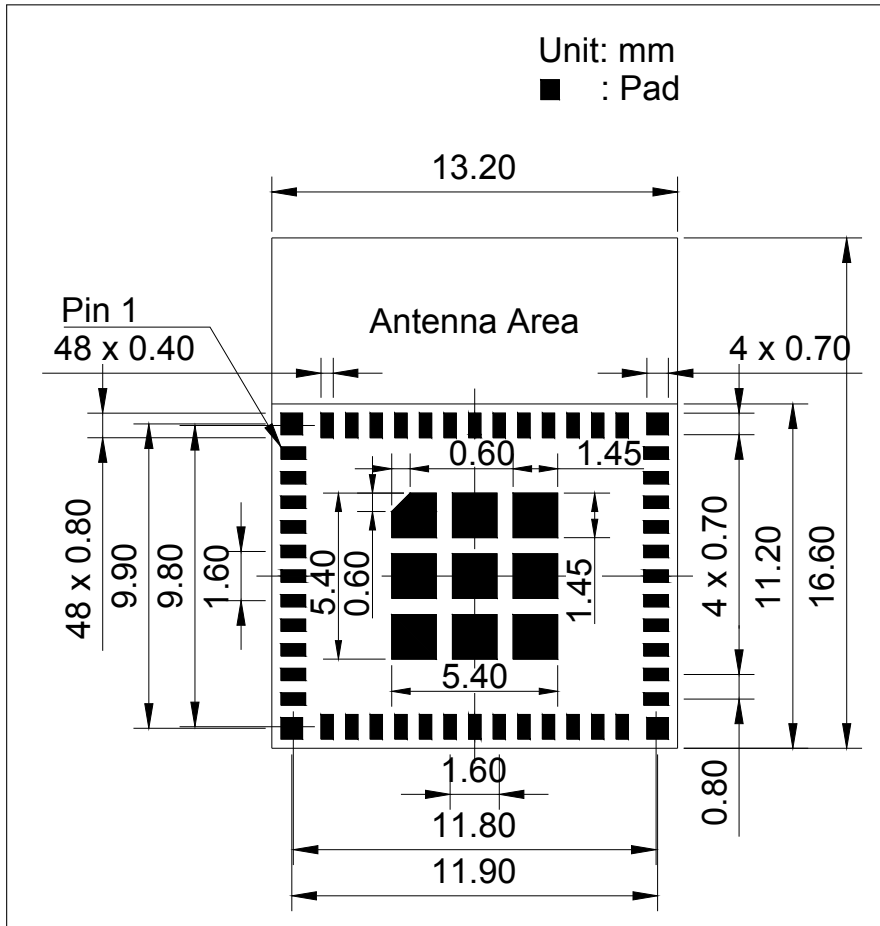
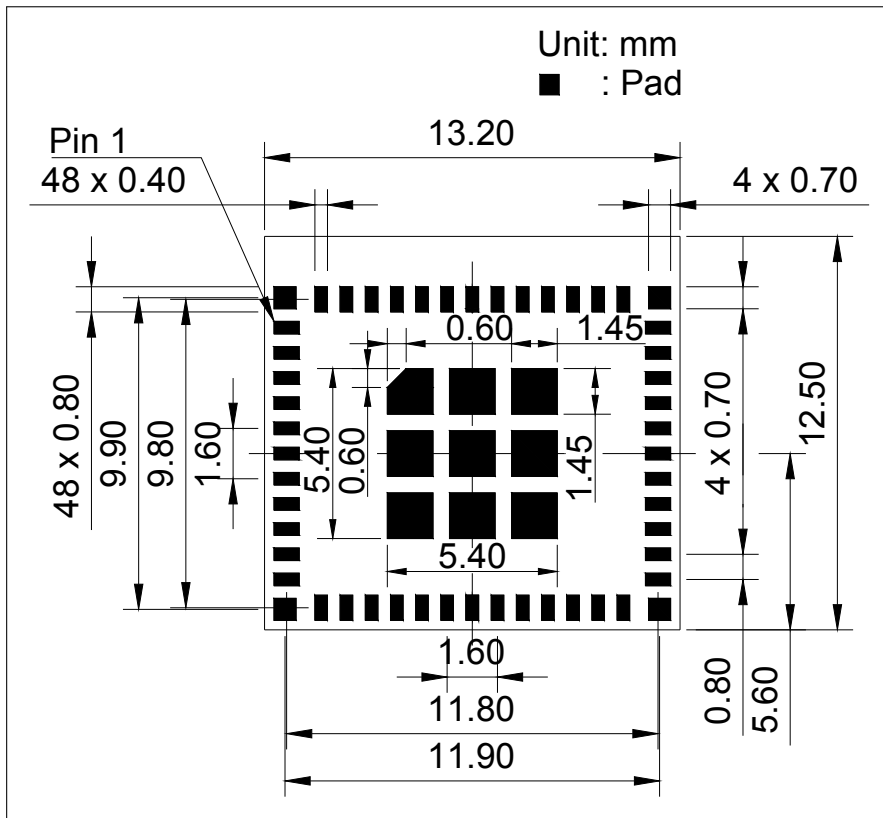

Figure 10: ESP32-C6-MINI-1 Recommended PCB Land Pattern
Figure 11: ESP32-C6-MINI-1U Recommended PCB Land Pattern
- Figures for recommended PCB land patterns with all the dimensions needed for PCB design. See Figure 10 *ESP32-C6-MINI-1 Recommended PCB Land Pattern* and Figure 11 *ESP32-C6-MINI-1U Recommended PCB Land Pattern*.
- Source files of recommended PCB land patterns to measure dimensions not covered in Figure 10. You can view the source files for ESP32-C6-MINI-1 with Autodesk Viewer.